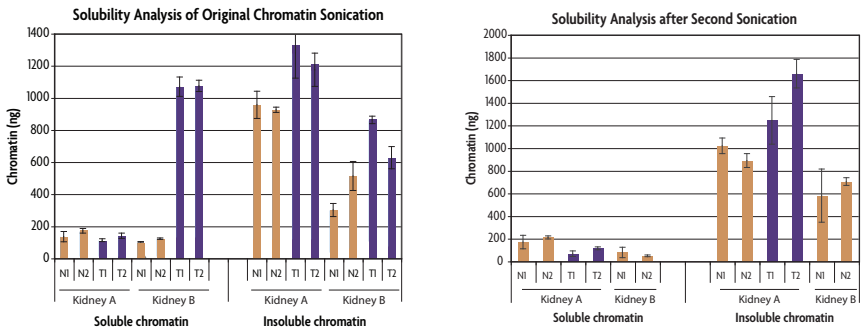

Figure 5: Solubility analysis of chromatin preparation from human kidney FFPE tissues.
7. Generate a graph to compare the total chromatin yield (ng) for both the soluble and insoluble fractions for each chromatin preparation (See Figure 5).